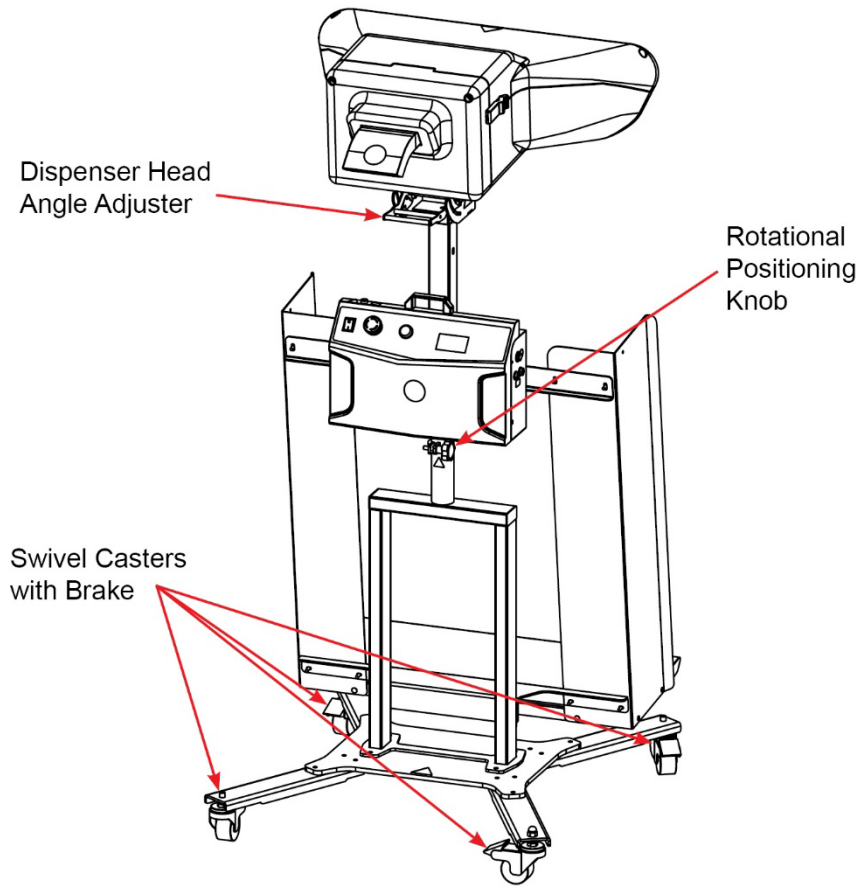

Figure 5 Floor Stand
- 1 Floor Stand (refer to Figure 5).
1. Assemble and affix the four stand legs (Figure 5, 4) with casters to the stand bottom plate frame (3) with two screws (5).
2. Install the vertical base (1) of the floor stand with four screws (2) to the stand bottom plate frame (3).